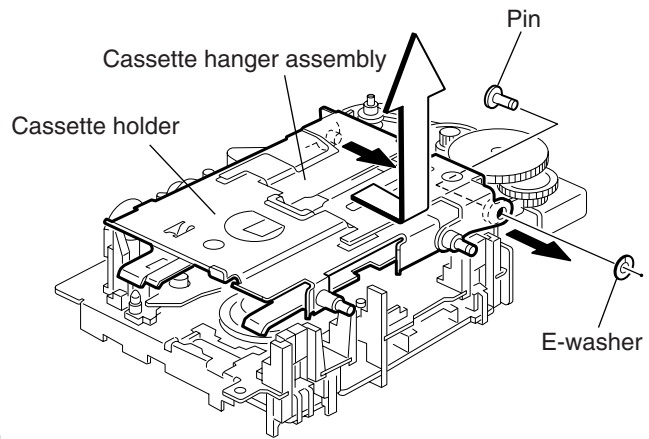

Fig.5
■ **Removing the cassette hanger assembly / cassette holder (See Fig.5)**
- Prior to performing the following procedure, remove the side bracket (L) and (R).